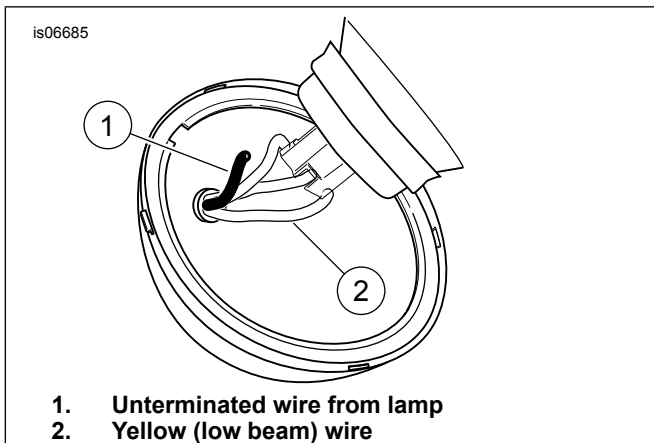

Figure 7. Splice Unterminated Wire from the Switch to Headlight Yellow Wire
- See Figure 7. Route the unterminated wire (1) from the switch through the grommet into the headlight housing. Splice it to the yellow (low beam) wire (2) using the Scotchlok® electrical connector (Item 14) from the kit.